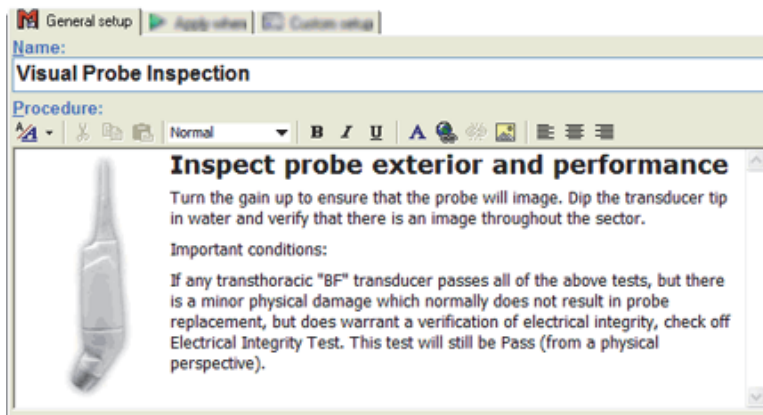

Figure 3-18. Procedure Using Text Styles
11. Press the **Enter** key and continue to enter the body text of the procedure. After pushing **Enter**, the style is automatically reset to normal. All text entered is displayed in the procedure editor as shown in Figure 3-18.